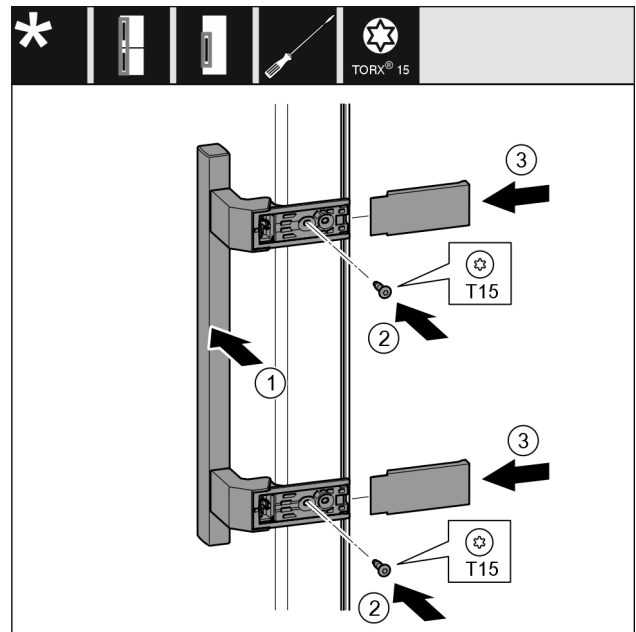

Fig. 23
- ▶ Place the handle Fig. 23 (1) on the opposite side.
- ▶ Tighten screws Fig. 23 (2) with screwdriver.
- ▶ Place the covers Fig. 23 (3) on the side and push them on.